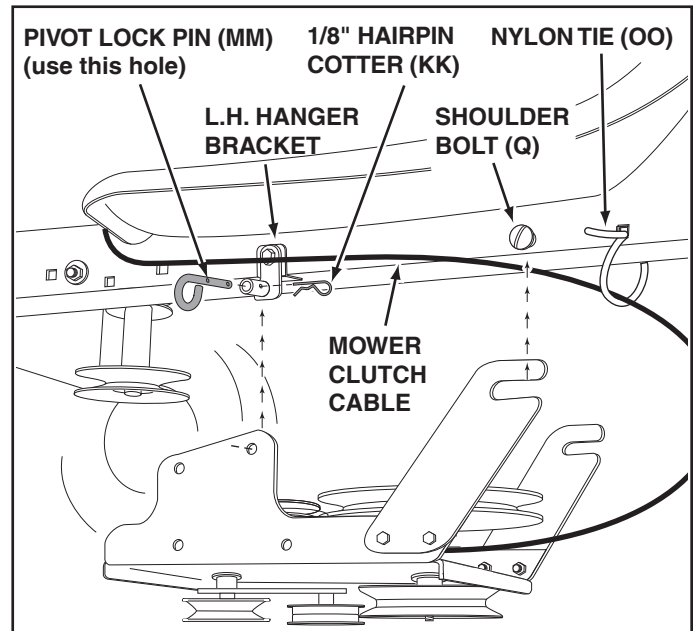

FIGURE 12
STEP 12: (SEE FIGURE 12)
- Attach the clutch/idler assembly to the tractor frame. Hook the notched suspension arms onto the two shoulder bolts (Q) assembled to the outside of the tractor frame. Lift the front of the assembly and attach it to the R.H. and L.H. hanger brackets using two pivot lock pins (MM) and 1/8" hairpin cotters (KK).
- Loosely attach the mower clutch cable to the left side of the tractor frame with a nylon tie (OO). **Do not** pull the nylon tie completely tight. The cable may need to be removed from the nylon tie when using the mower deck.